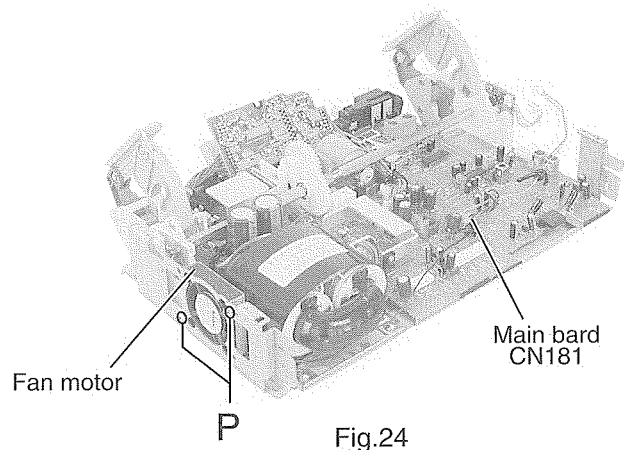

Fig.24
■Removing the fan motor assembly (See Fig.24 and 25)